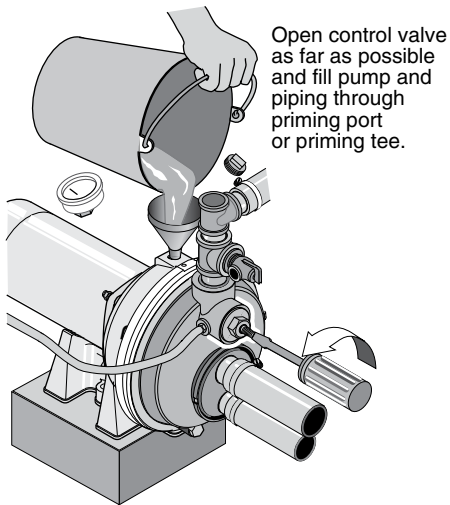

Figure 12: Fill Pump
1. Open the control valve as far as possible (see Figure 12). Then remove the priming plug from the pump and fill the pump, fill all piping between the pump and the well, and make sure that all piping in the well is full. If you have also installed a priming tee in the suction piping, remove the plug from the tee and fill the suction piping.